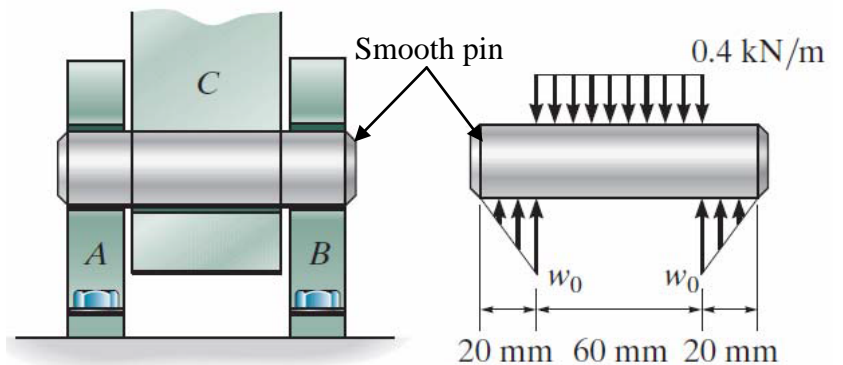

Fig. 1
1. The smooth pin is supported by two leaves A and B and subjected to a compressive load of 0.4 kN/m caused by bar C (Fig. 1). Determine the intensity of the linearly distributed load w_0 of the leaves on the pin and draw the shear force and bending moment diagram for the pin.